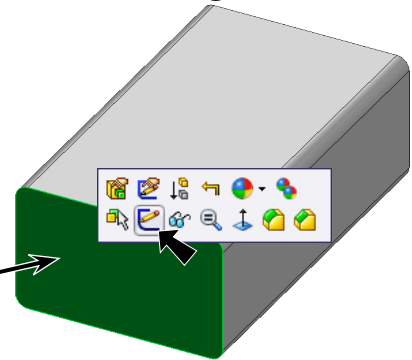
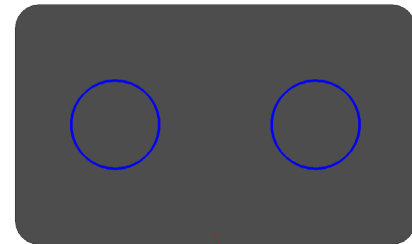
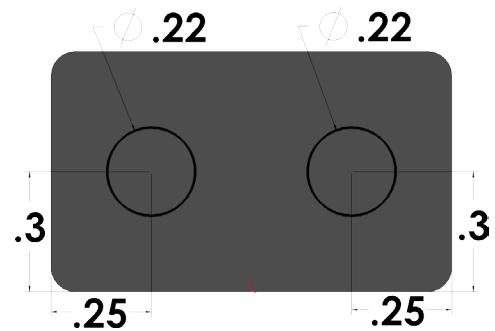

Fig. 8
Fig. 9
Fig. 10
click **OK** , Fig. 8.
Step 1. Click the **front face** of the battery and click **Sketch**  on the Content toolbar, Fig. 8.
Step 3. Click **Circle**  (S) on the Sketch toolbar.
Step 4. Draw two circles for the battery terminals, Fig. 9.
Step 5. Click **Smart Dimension**  (S) on the Sketch toolbar.
Step 6. Dimension as shown in Fig. 10.